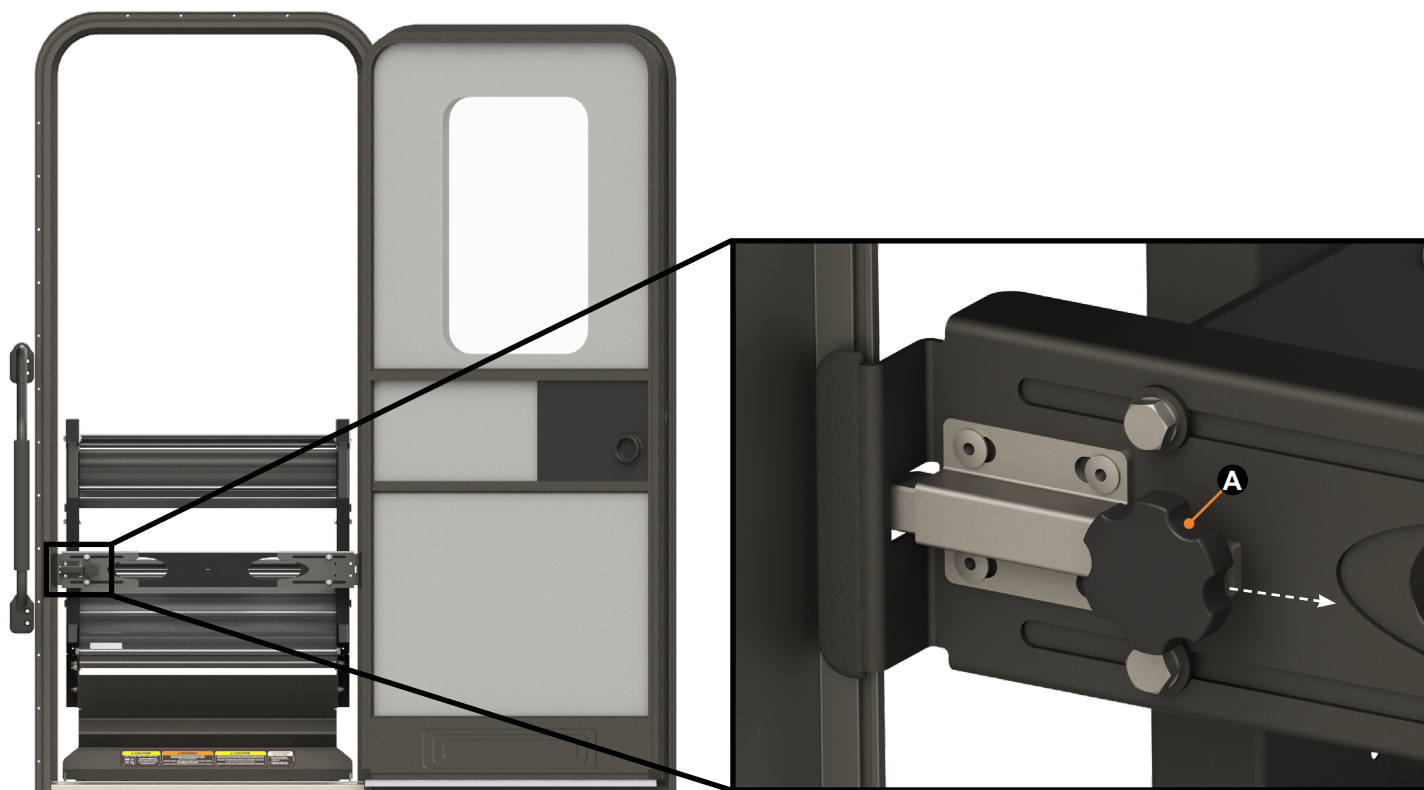

Fig.18
1. From the stowed position (Fig. 18), disengage the transport lock (Fig. 18A) by pulling the transport lock knob to the right.
2. Lift up SolidStep 4.0 to its stored position (Fig. 18) until the transport locks engage and click into place.